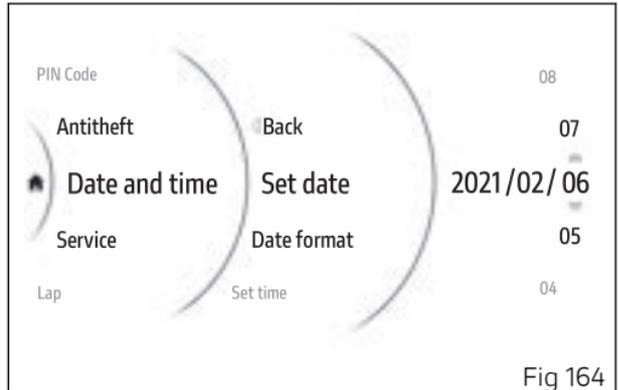

Fig 164
The arrows and available values appear for the third parameter, which is the (day in the example shown here, Fig 164). Use buttons (1) and (2) to scroll and select the desired value. Press ENTER (3) to confirm and return to the previous screen.